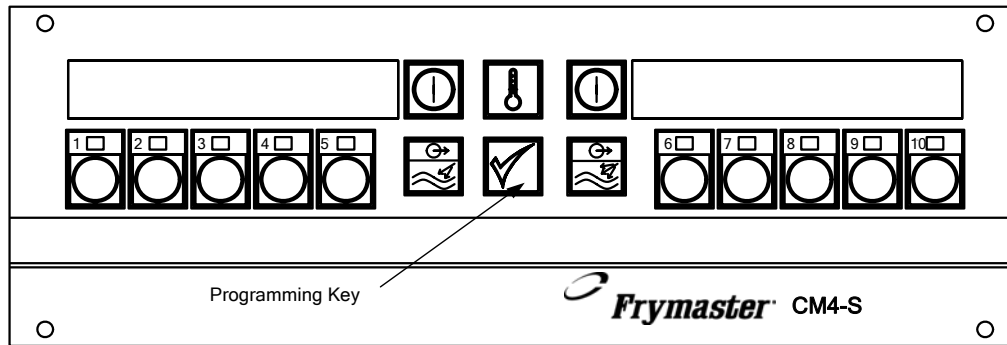

Figure 1: CM4-S Computer
1. With the display showing OFF. Press the programming key. See Figure 1 above.
1. With the display showing OFF. Press the programming key. See Figure1.
3. Press the programming button. See Figure 1.